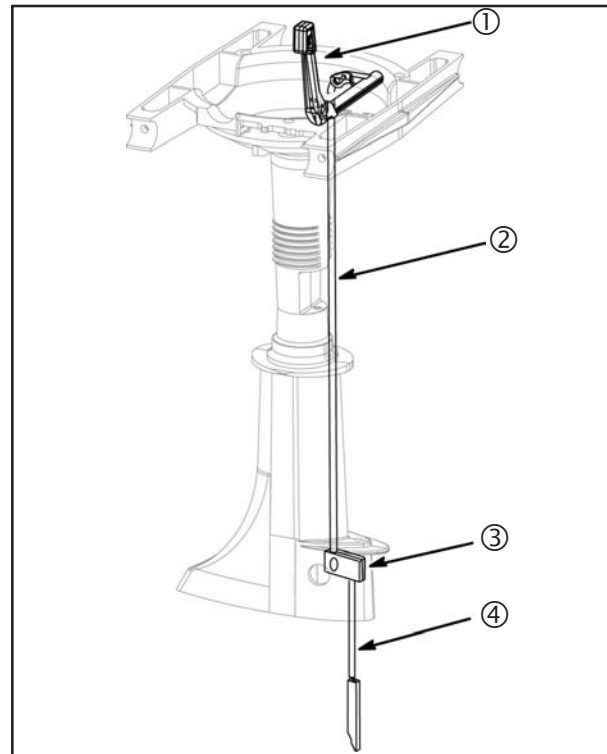

**Fig. 3 – Dipstick Markings**
8. Check the oil level. The oil level should be between the ADD and FULL marks on the dipstick. Add new oil if required (Figure 3).